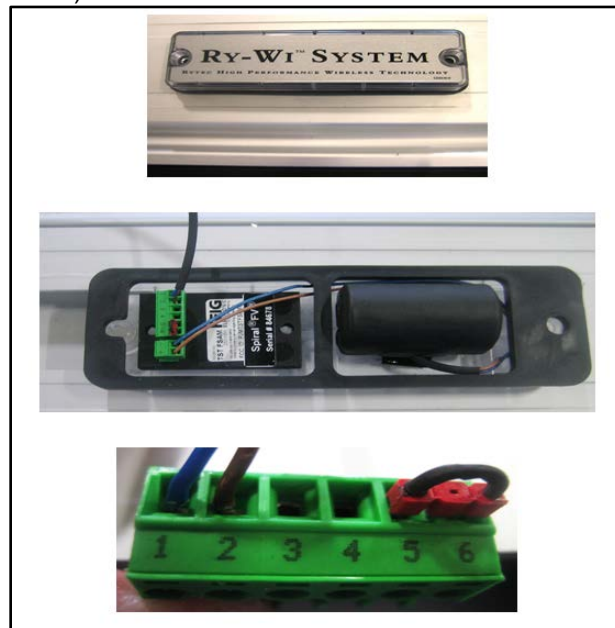

Figure 16
4. Check the wires from the reversing edge cable that go to the terminal block of the mobile unit. Make sure that they are tightly secure. Inspect terminal block for damage and replace any missing or damaged hardware. (See Figure 16.)